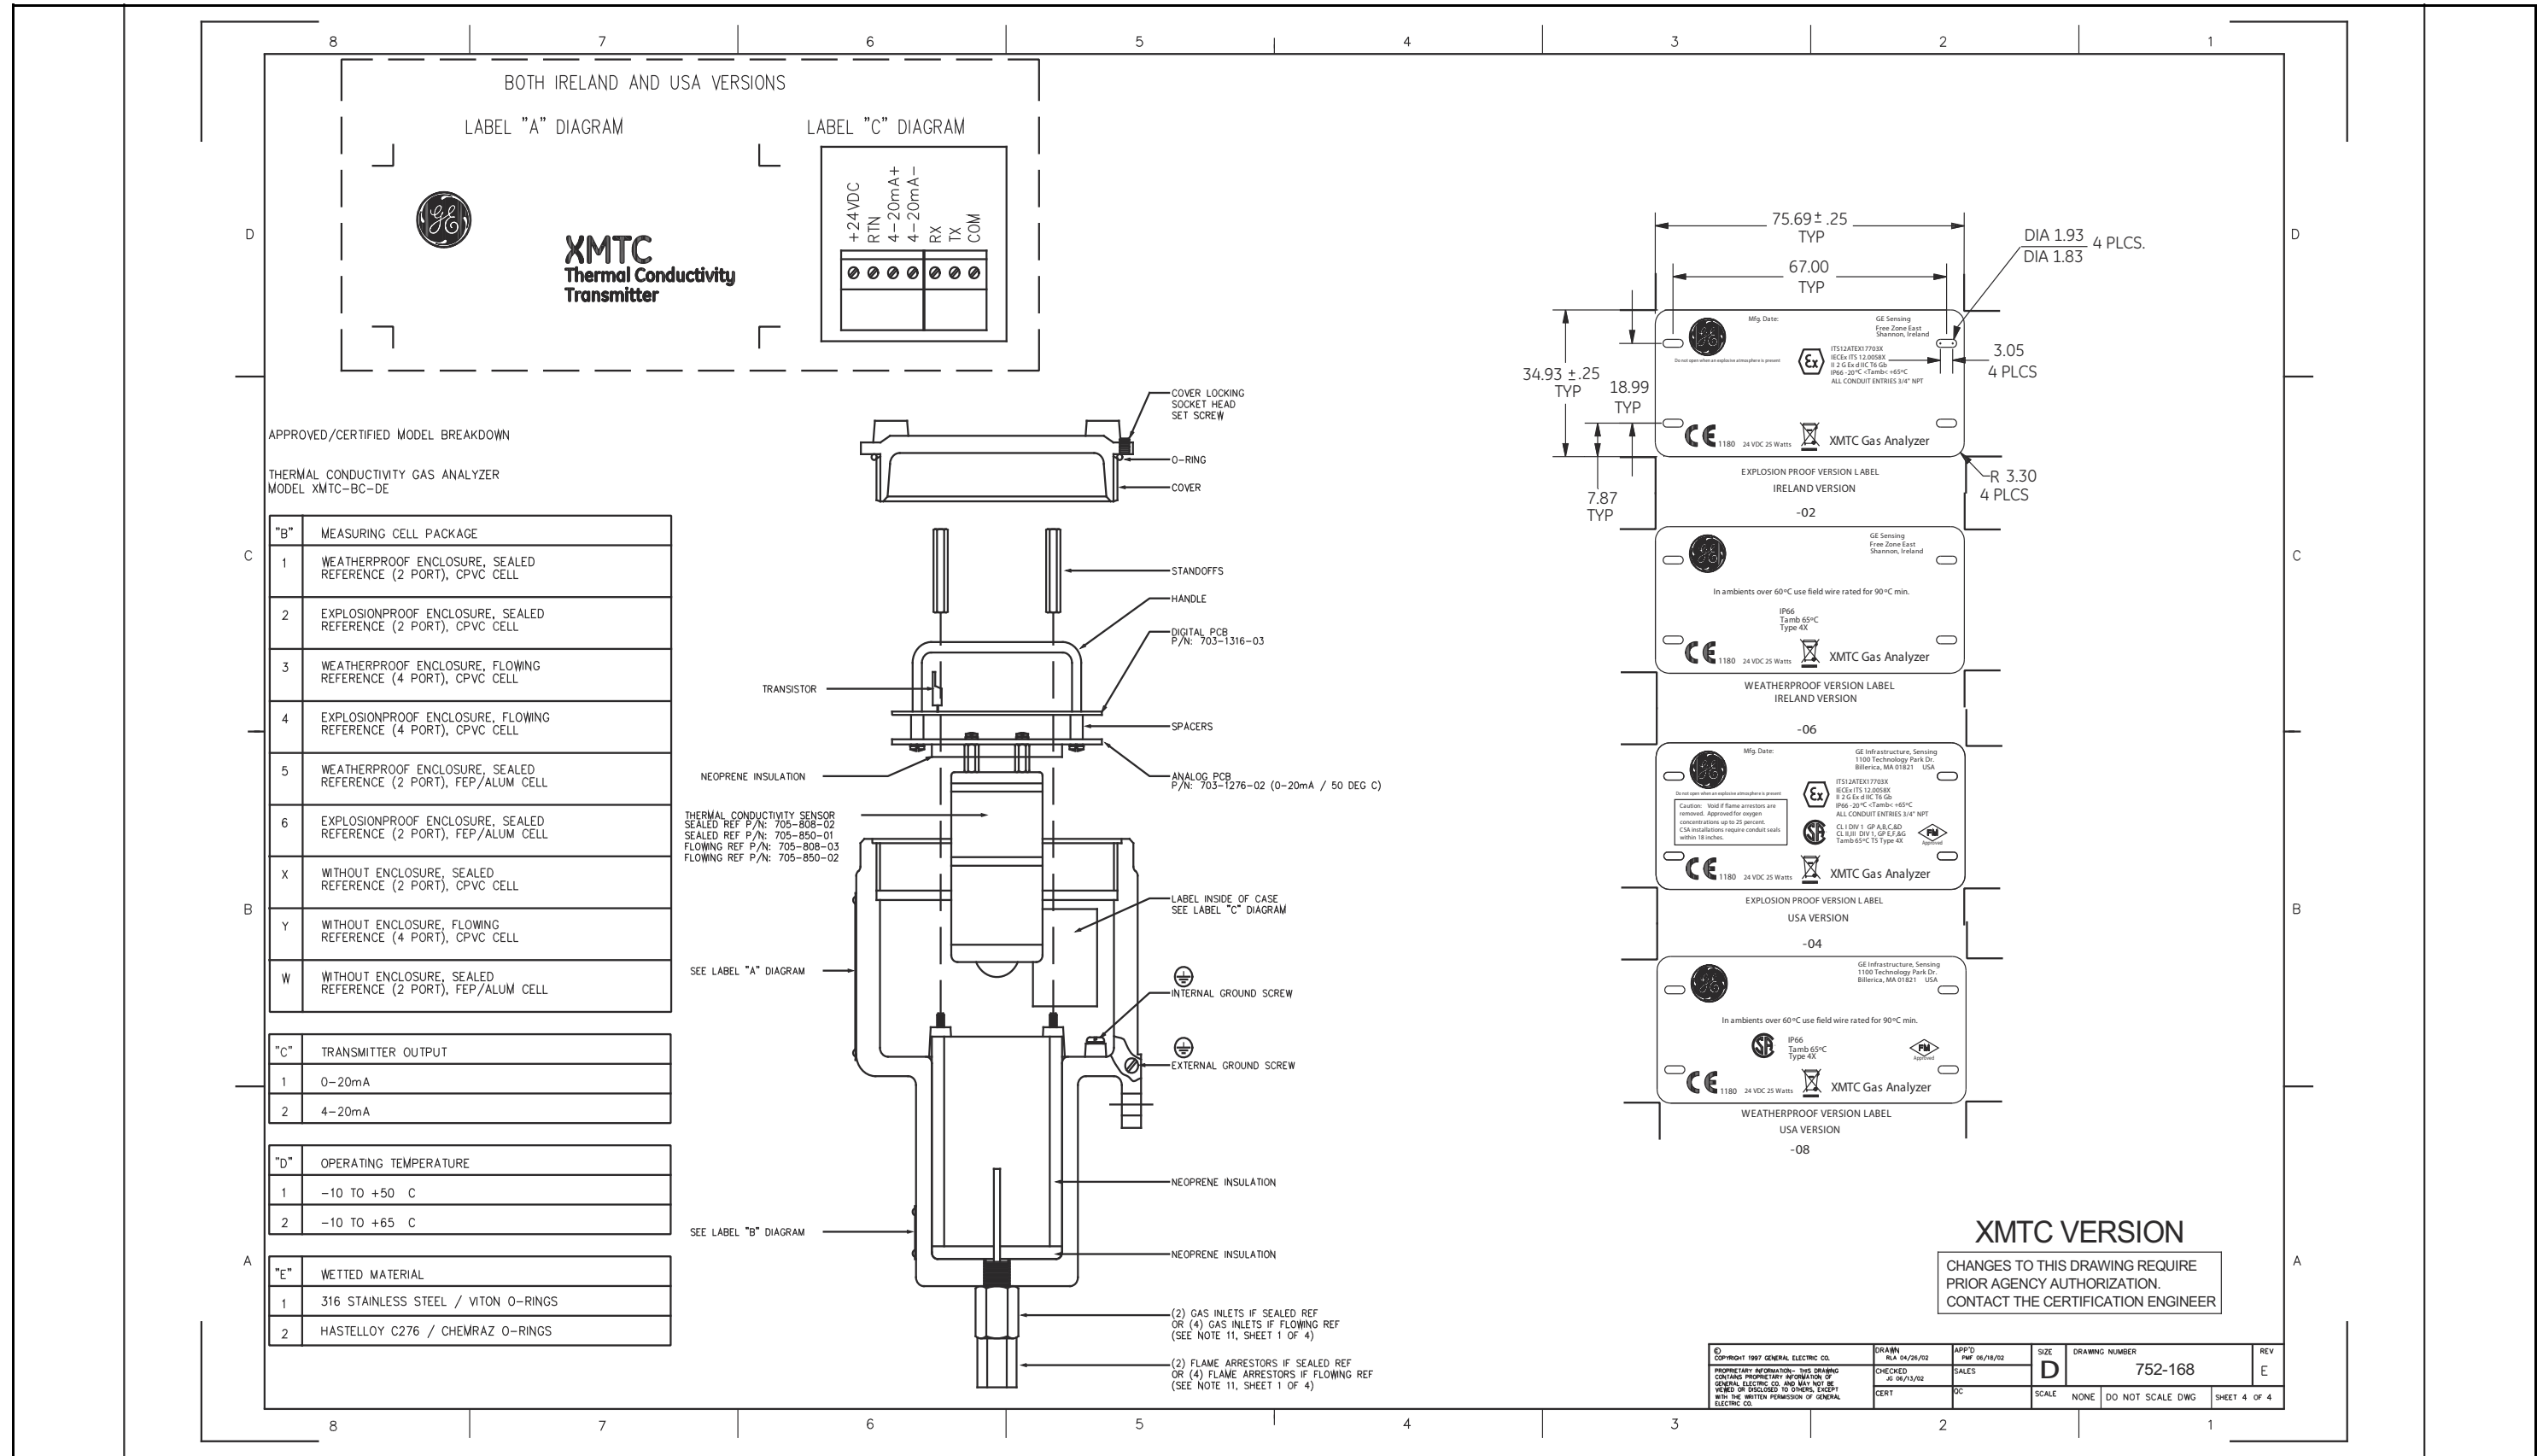

Figure 62: Certification Drawing (ref. 752-168, Rev. E, SH4)
- Figure 62, "Certification Drawing (ref. 752-168, Rev. E, SH4)," on page 73